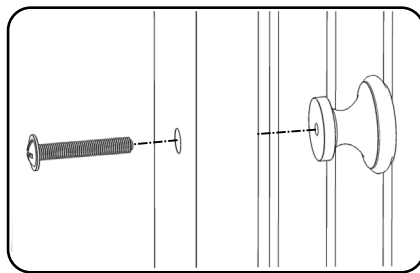

Figure 5
Attach Knobs to Doors (T) and (U) with Machine Screws. (See Figure 5)